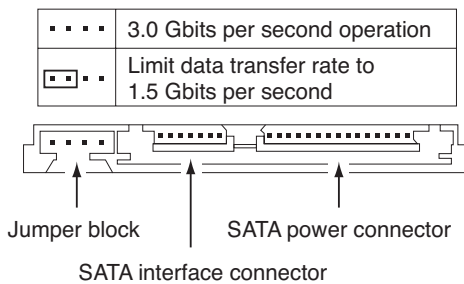

Figure 3. Serial ATA connectors and jumper options
- Configure the jumper block with a jumper as shown in Figure 3 below to limit the data transfer rate to 1.5 Gbits per second (and leave the drive connected to the SATA-equipped motherboard or host adapter that doesn't support autonegotiation) or
- Install a SATA host adapter that supports autonegotiation, leave the drive jumper block set to “Normal operation” (see Figure 3 below), and connect the drive to that adapter. This option has the benefit of not limiting the drive to a 1.5 Gbits/sec transfer rate.